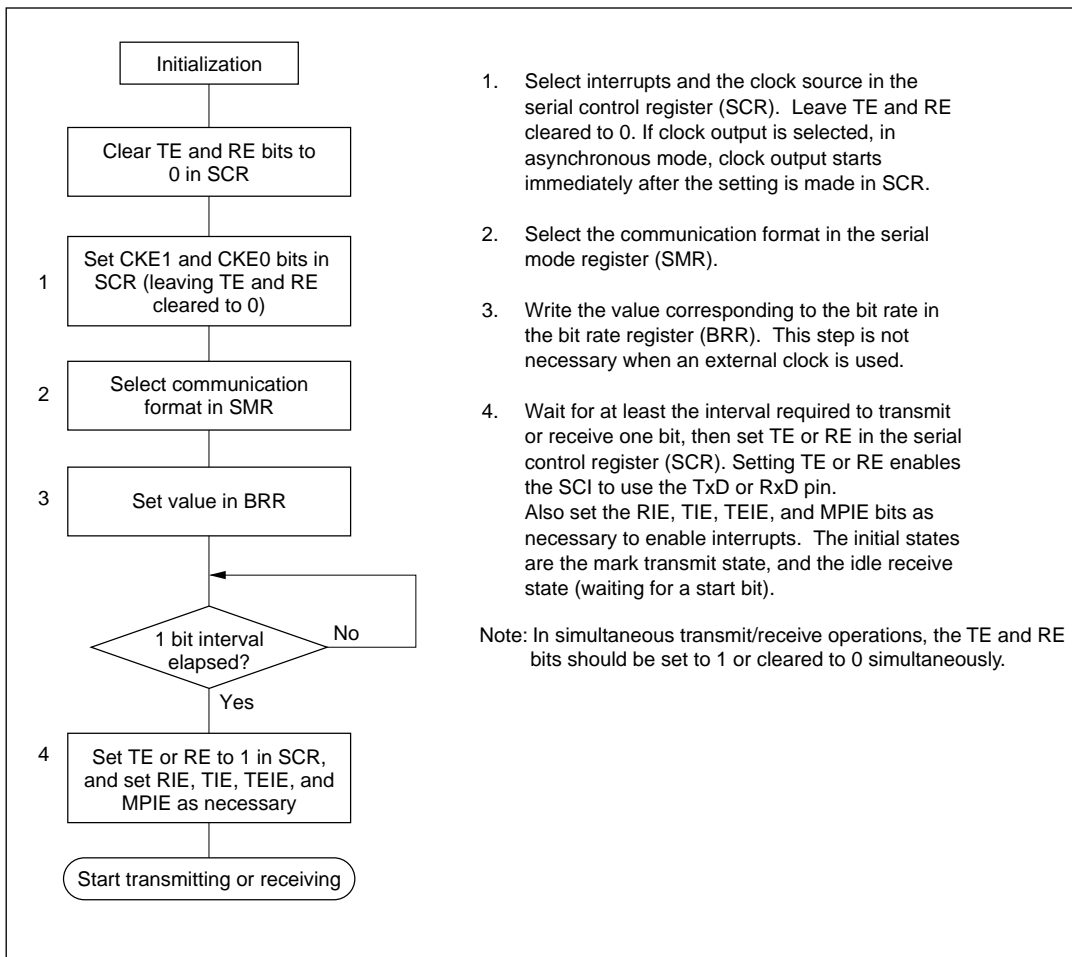

Figure 11-4 Sample Flowchart for SCI Initialization
(3) Transmitting and Receiving Data
- **SCI Initialization:** Before transmitting or receiving, software must clear the TE and RE bits to 0 in the serial control register (SCR), then initialize the SCI following the procedure in figure 11-4.
(2) Transmitting and Receiving Data
- **SCI Initialization:** The SCI must be initialized in the same way as in asynchronous mode. See figure 11-4. When switching from asynchronous mode to synchronous mode, check that the ORER, FER, and PER bits are cleared to 0. Transmitting and receiving cannot begin if ORER, FER, or PER is set to 1.